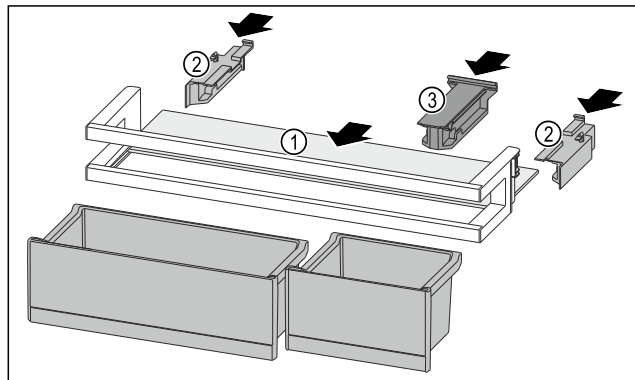

Fig. 130
- ▶ Push the shelf Fig. 130 (1) into the side recesses.
- ▶ Insert the side parts Fig. 130 (2).
- ▶ Insert the holding part Fig. 130 (3).